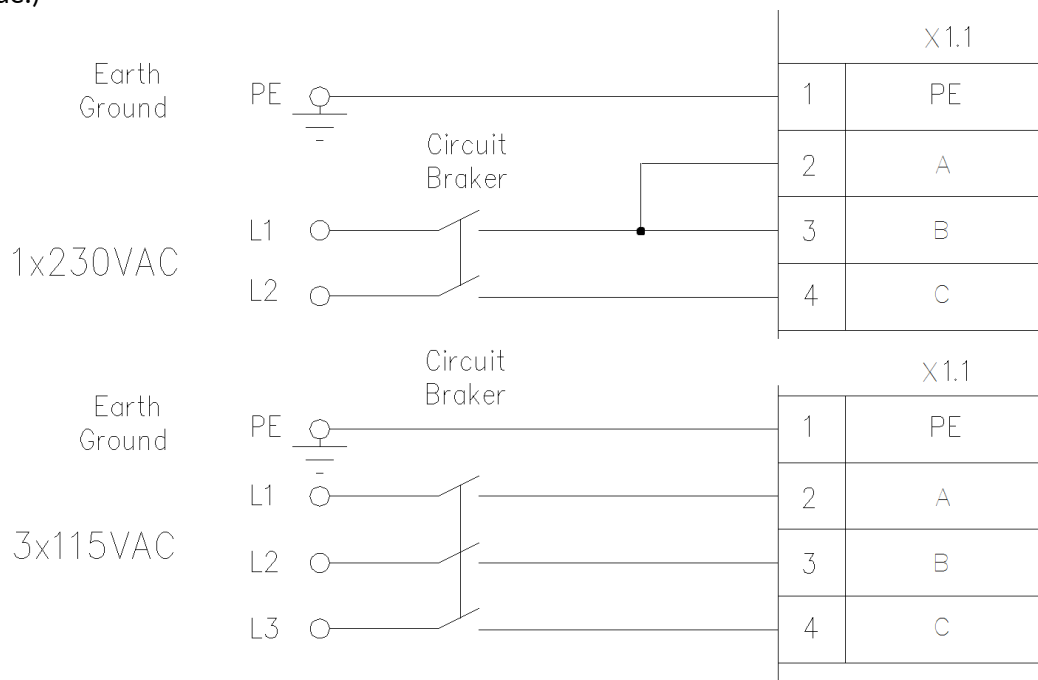

Fig. 3: Power supply wiring details.
3. Connect the AC input power as shown in Fig. 3. (Do not apply power until all hardware connections are made.)